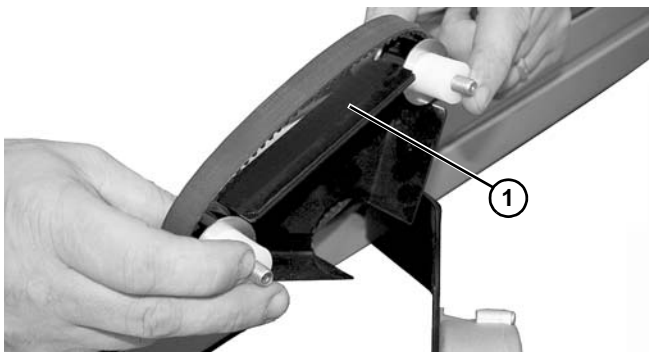

Figure 135
2. Remove guide track assembly (**Figure 135, item 1**).